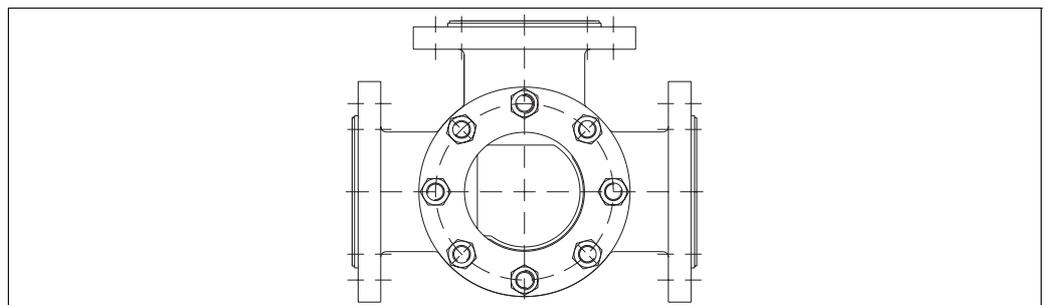

Fig. 22: Flow assembly with integrated sight glass
- Flow assembly with sight glass, PFA lined, conductive (see Fig. 22)